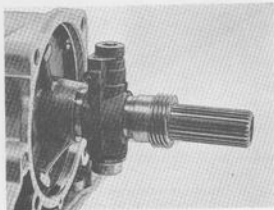

Fig. 4-126. Installing speedometer gear
21. Place the speedometer gear correctly on the driven shaft as shown in Fig. 4-126. Fit the extension housing with a new gasket and fit the drive flange with washer and nut.